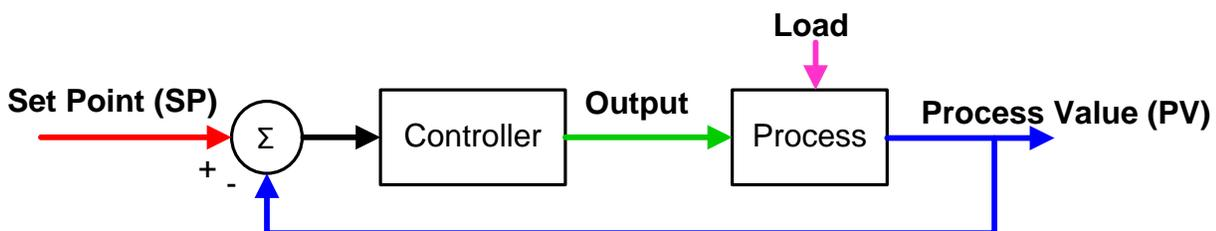

Figure 1. Basic feedback control loop.
- feedback control loops (Figure 1) in continuous and batch processes.
We assume the controller block in Figure 1 contains a PID algorithm. The process block includes the final control element or slave loop, the process to be controlled (chemistry, hydraulics, thermal energy, etc.) and the sensor/transmitter. Lambda tuning gives a non-oscillatory response to setpoint changes and load disturbances. You choose the response time (Lambda or λ) to fit the control strategy and the unit production objectives. Most of the processes in your plant will fit either the first order model or the integrator model.